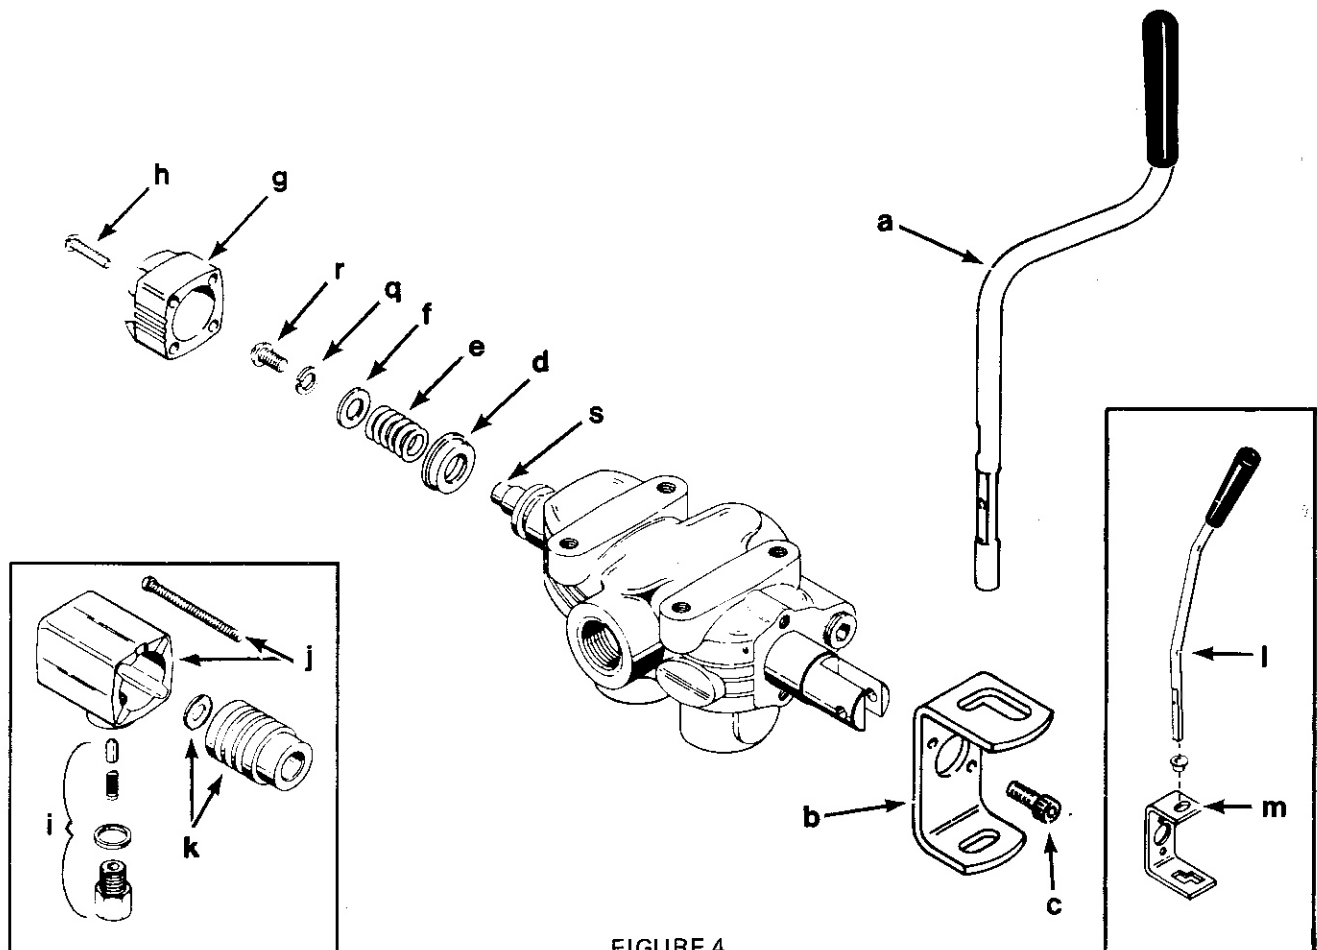

FIGURE 4
2. See Figure 4. The following parts must be installed on the hydraulic PTO valve to use with the J-32 Wood Splitter on Model 444, 446 and 448 tractors. For Model 644, 646 and 648 install parts "d" through "h" only and follow installation steps 6 through 11. The valve does not have to be removed to make the installation.